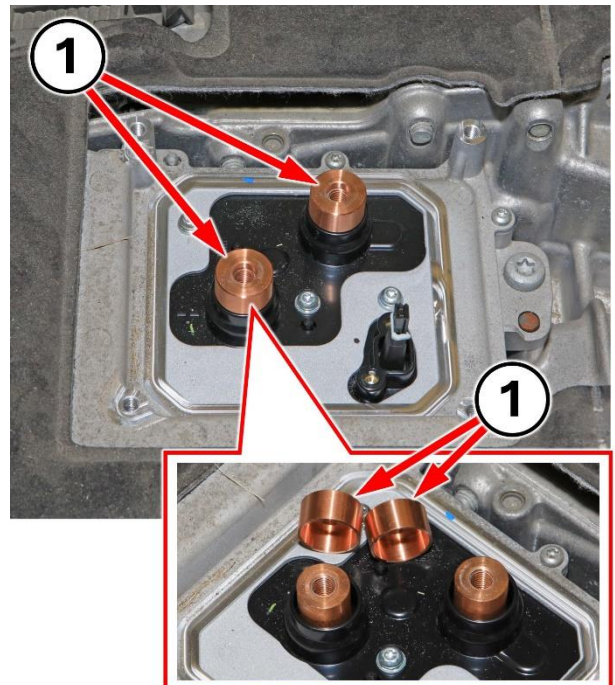

Figure 39 – Copper Spacers
- 81. Remove the two copper spacers from the EDM high voltage cable terminals (Figure 39).
93. Install the two copper spacers to the EDM high voltage cable terminals (Figure 39).